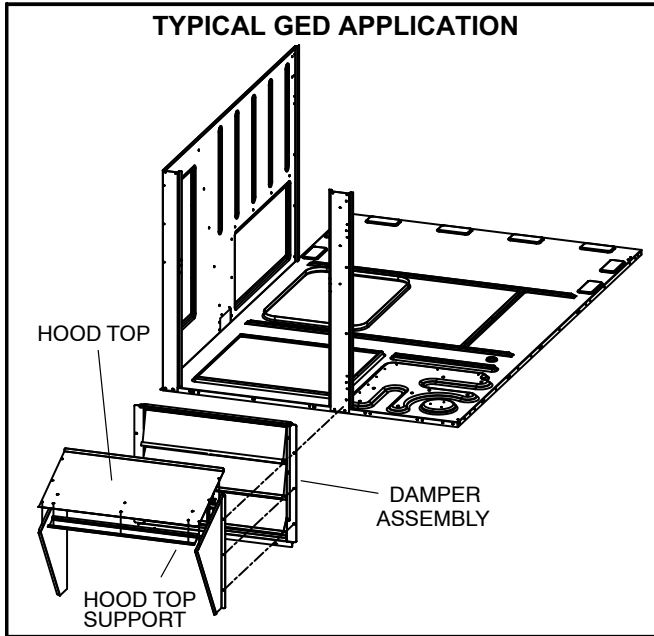

FIGURE 20
- 1- Attach hood top to hood top support at the top of the damper assembly. See figure 20.
- 2- Remove screws from sides of economizer assembly (if installed). Remove paper backing from foam gaskets on hood sides. Secure left and right hood sides to the damper assembly as shown in figure 20.